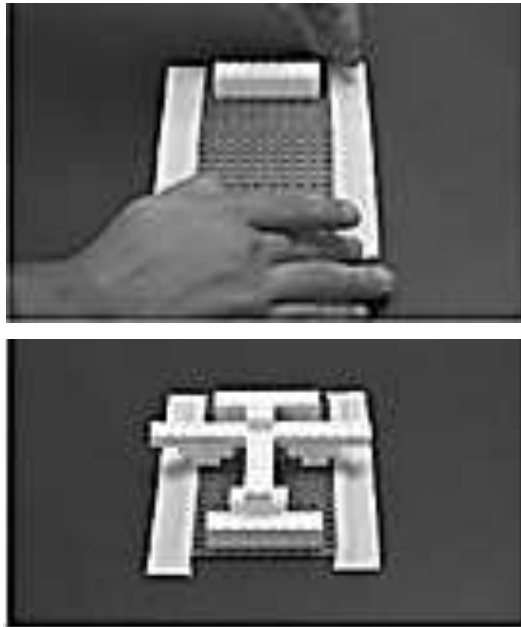

Figure 4-17: White fixture is taped down and length is measured.
STEP 4: They must then tape the white fixture down and measure the length of the white plane (see Figure 4-17)